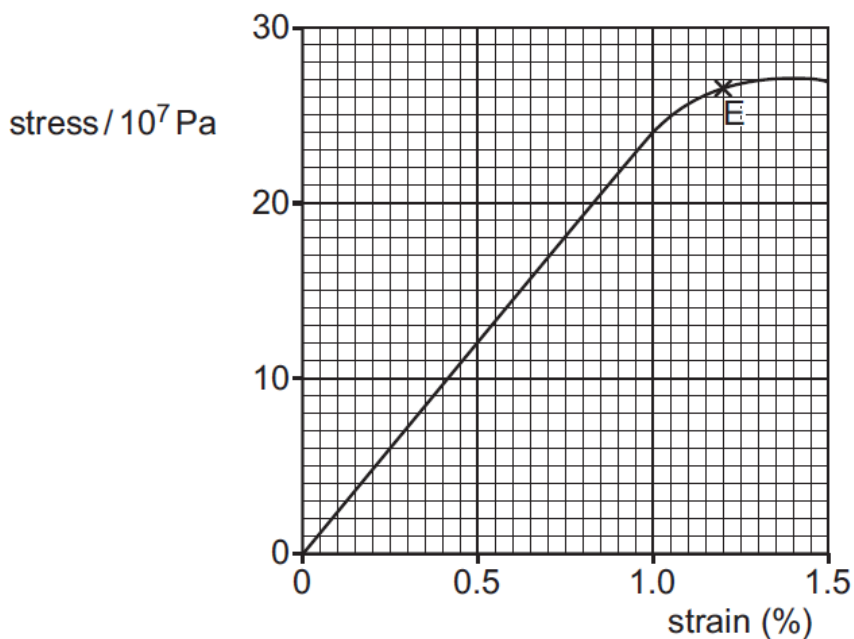

Fig. 3.1
- (a) The variation of stress with strain for a metal P is shown in Fig. 3.1.
- (i) Use Fig. 3.1 to determine the Young modulus for P.
- (ii) On the line in Fig. 3.1, draw a cross (x) to show the limit of proportionality.